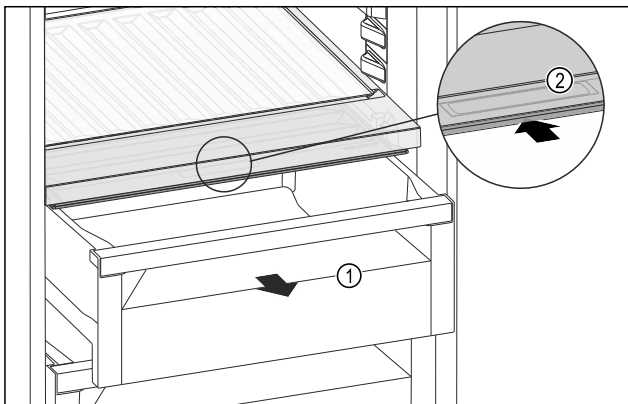

Fig. 148
- Pull out the drawer Fig. 148 (1).
- Grip the handle recess Fig. 148 (2) on the lid while pulling the lid backward at the same time.